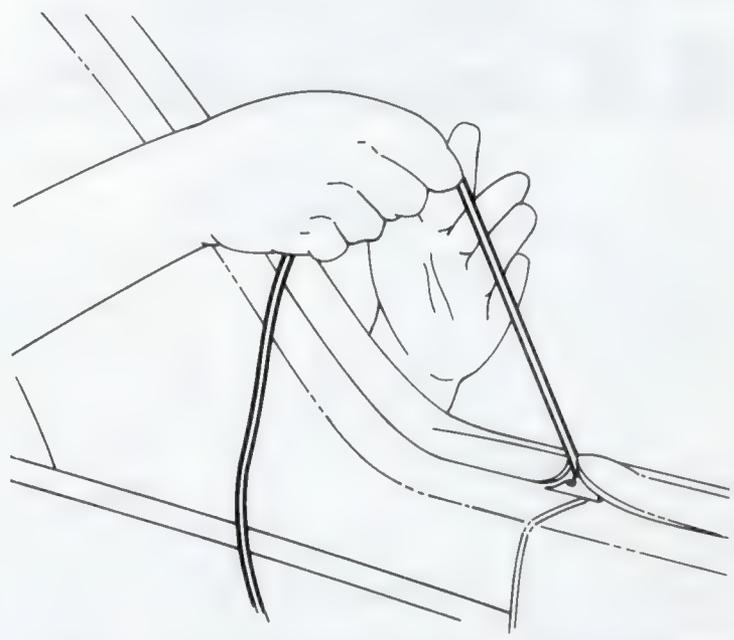

Fig. 3K-18 Rear Quarter Glass Installation
- (2) Insert a cord in lip groove of rubber channel around glass and overlap cord ends at bottom of the glass.
- (3) Apply approximately 1/2-inch bead of 3M Auto Bedding and Glazing Compound, or equivalent, to window opening ledge—**not on flange.**
- (4) Set upper end of glass against upper flange and set bottom end in.
- (5) Pull cord up to lift lip of rubber channel over flange completely around glass (fig. 3K-18).